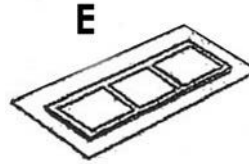

Figure 1.
1. Put the Back Panel (E) face up on a flat soft working surface to ensure that the surface is not scratched or damaged (Figure 1).